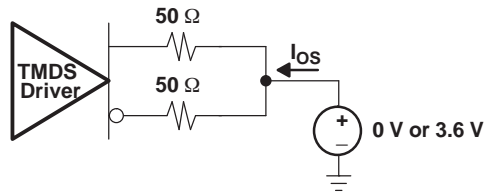

Figure 3. Short Circuit Output Current Test Circuit
| I _(OS) Short circuit output current | See Figure 3 | | | 12 | mA |